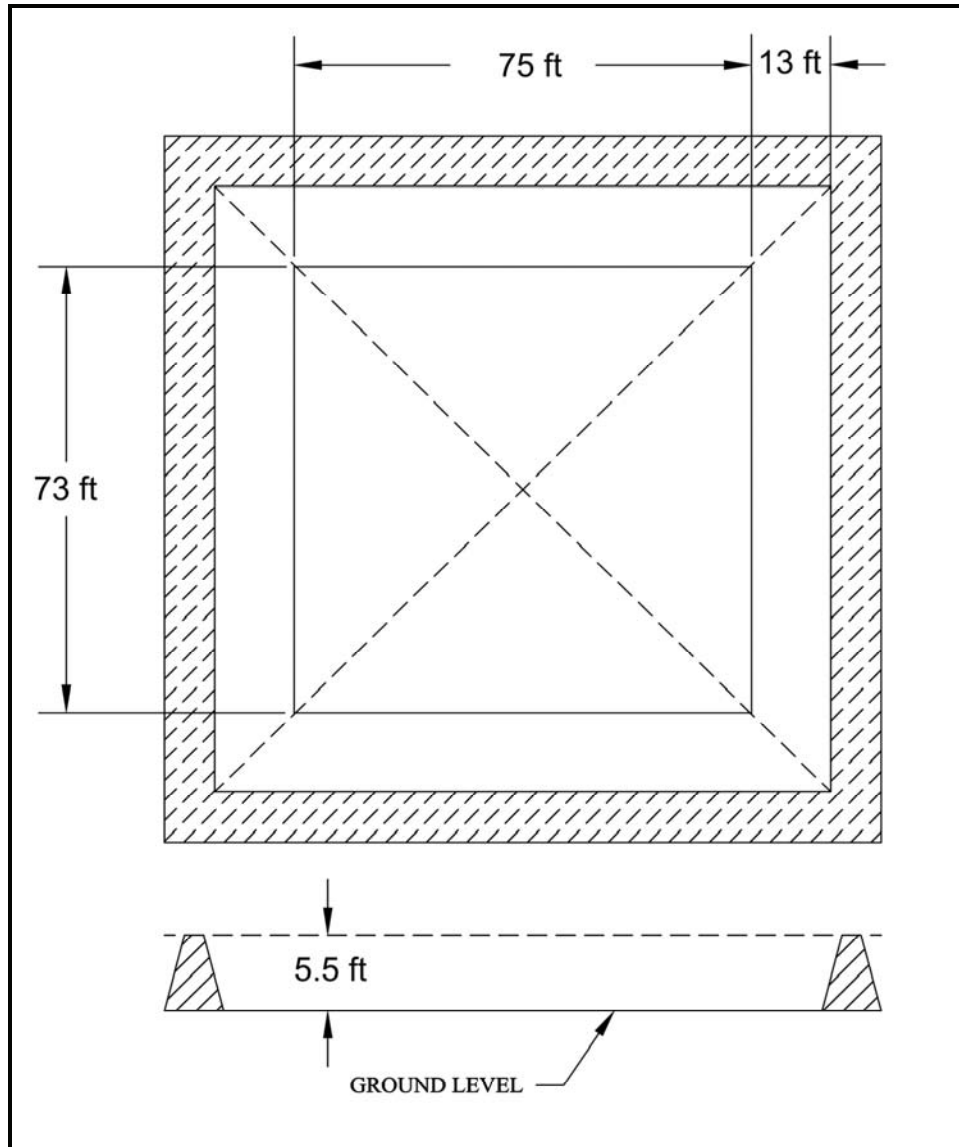
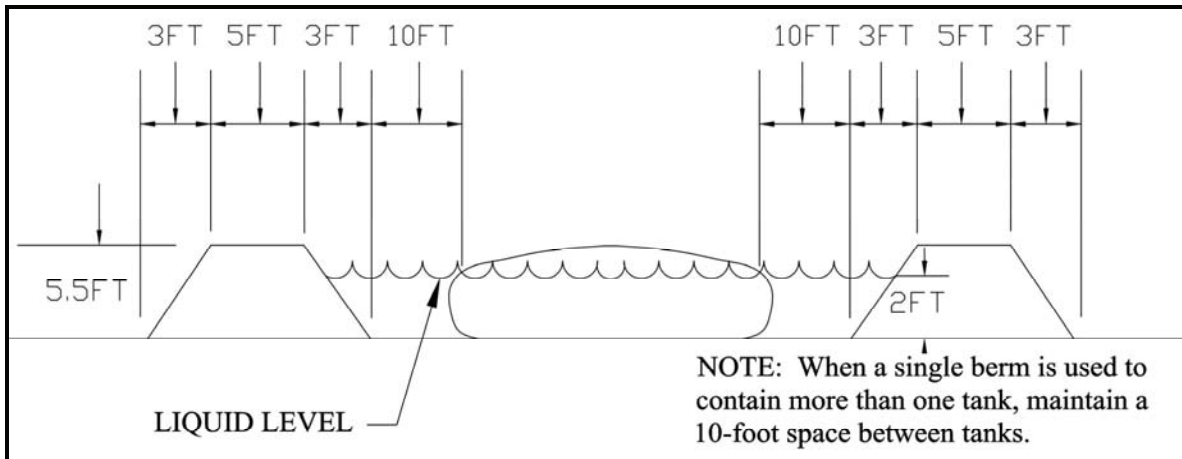

Figure 1. Berm Construction.
Figure 3. Berm Cross-section.
1. Clear and level an area so there is at least a 13-foot wide perimeter around the empty flat tank (Figure 1 and Figure 3).